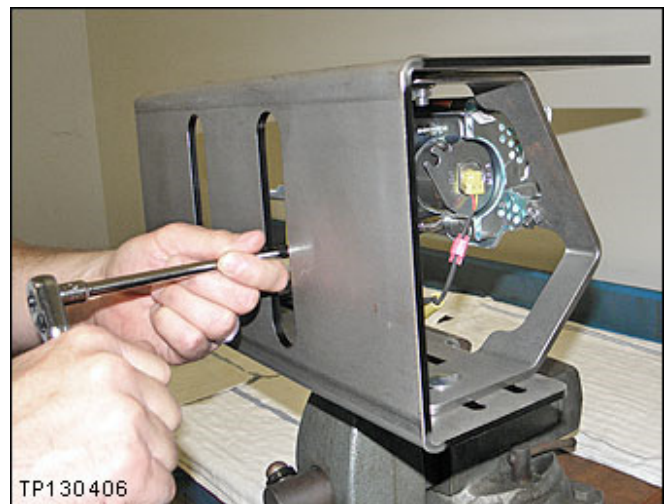

Figure F8
23. Remove the 4 nuts from the module that hold the inflator in place (see Figures F8 and F9).